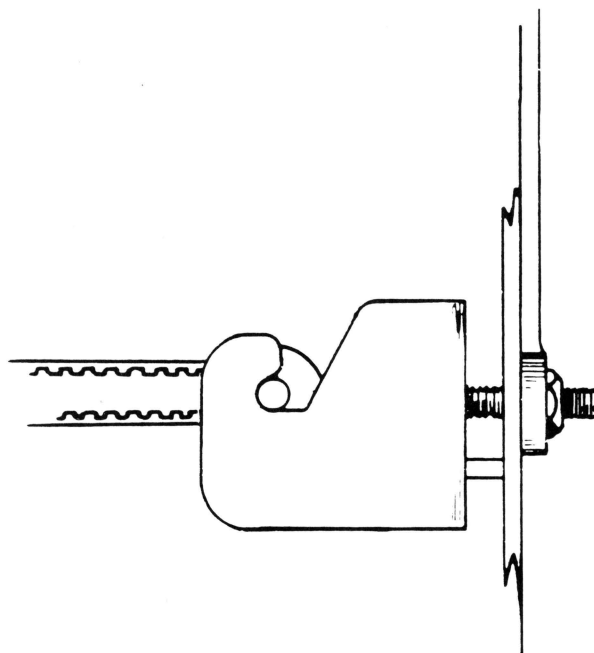

FIGURE 18
4. If the drive belt tension is not correct, turn the drive belt tension adjusting nut clockwise to increase belt tension or counterclockwise to decrease belt tension (see Figure 18).